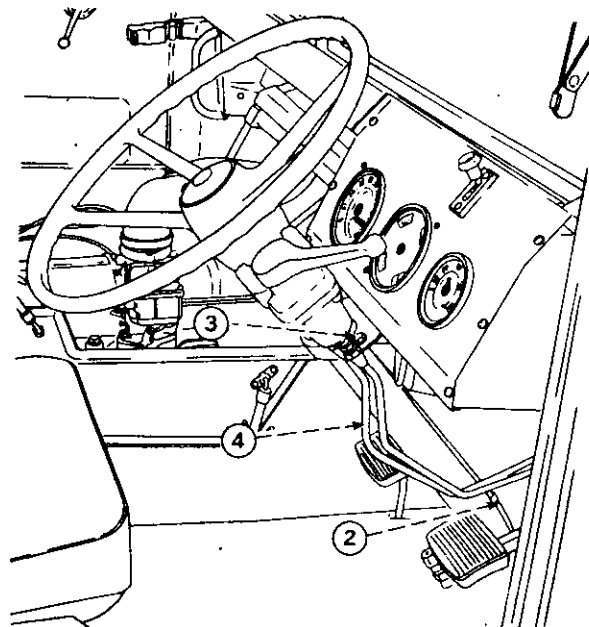
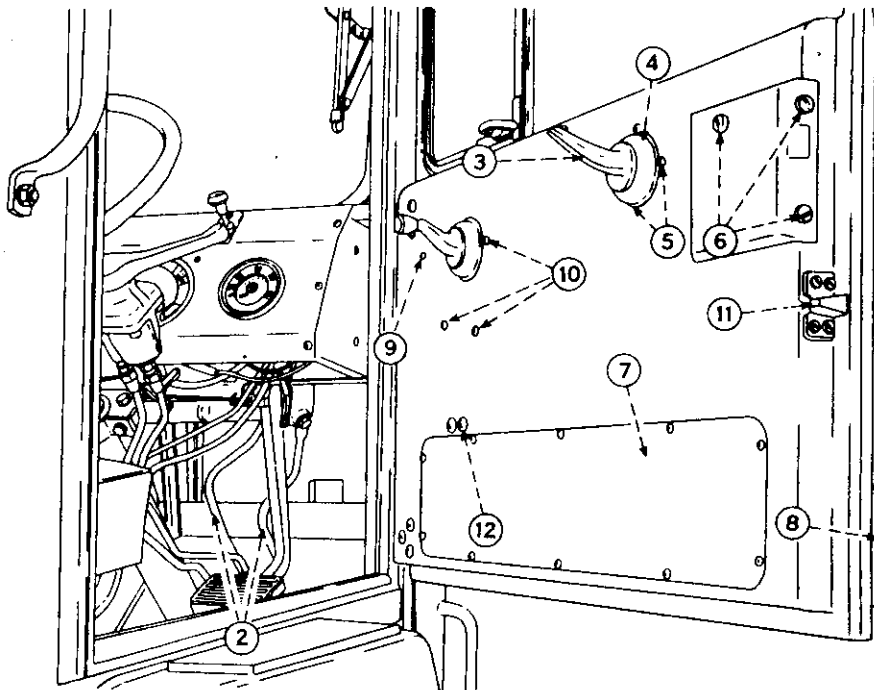

FIG 17 - AIR CONNECTIONS
FIG 20 - CAB DOOR
f. Detach the steering column at the instrument panel (two bolts) one of which can be seen as item 3, fig 17.
- s. Remove the air lines (item 2, fig 20) and (item 4, fig 17) from the air control valve and toe board fittings. Disconnect the air gauge pipe (item 2, fig 17) at the manifold fitting on the toe board.
- a. The wedge plate dove tail (item 11, fig 20) on the door can be adjusted vertically by loosening the fixing screws and sliding the dove tail to the desired position.